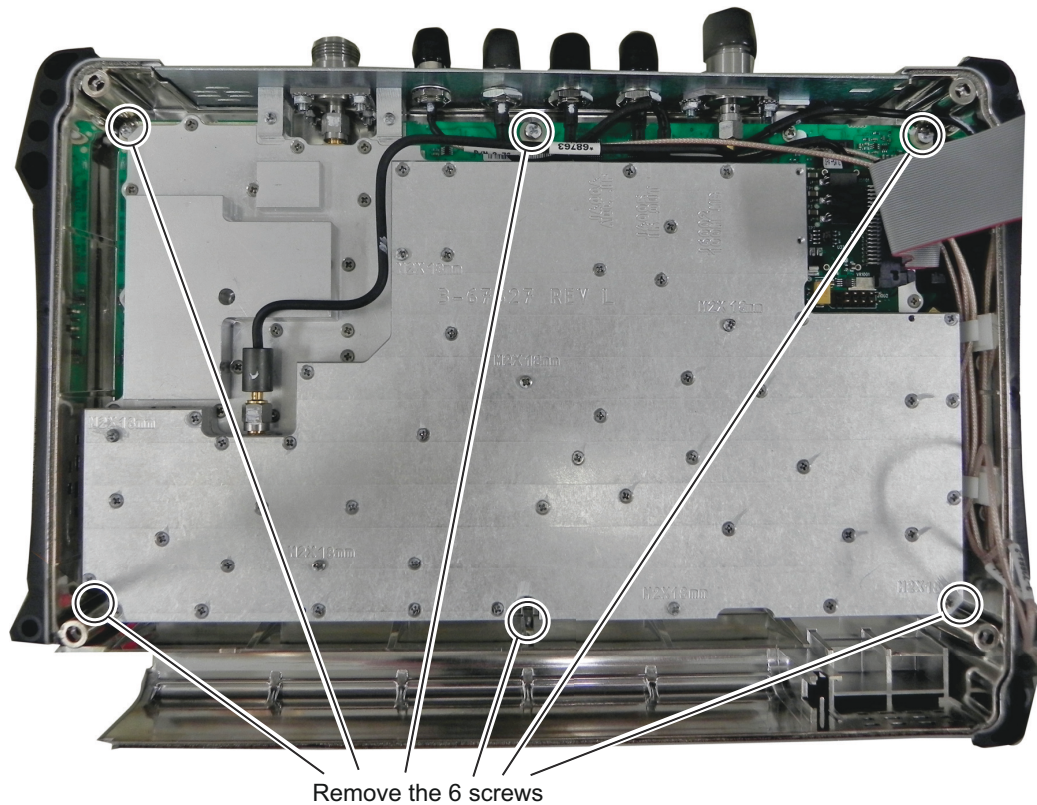

Figure 8-4. Spectrum Analyzer and Vector Signal Generator Module Assembly
2. Use a Phillips screwdriver to remove the six screws securing the Spectrum Analyzer Module Assembly to the back half of the instrument case (Figure 8-4).